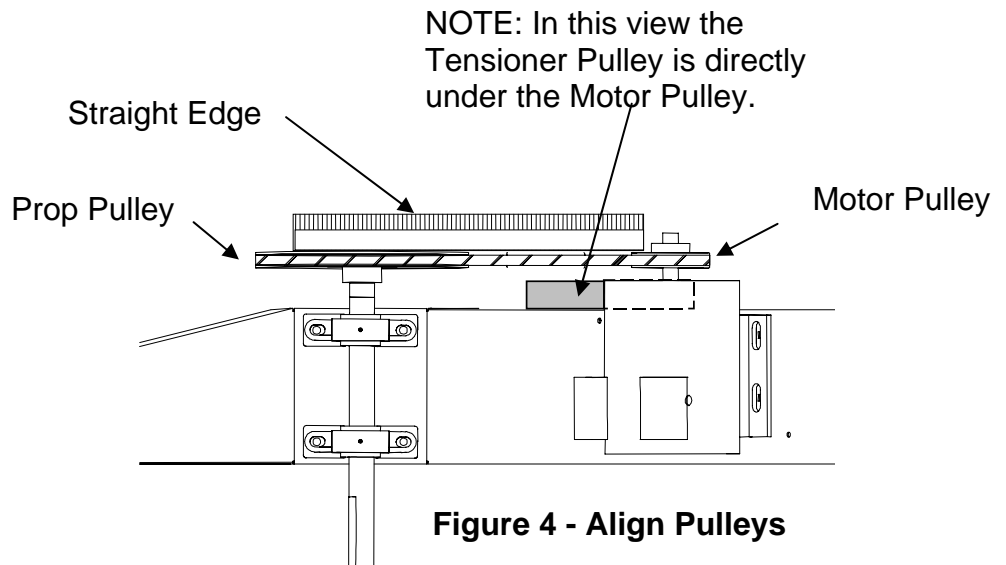

Figure 4 - Align Pulleys
6. Refer to **Figure 4**. Use a straight edge to align the prop pulley and the motor pulley with the tensioner pulley as shown. If necessary, loosen the prop pulley set screw. Securely tighten set screw of motor pulley and prop pulley. Recommended torque is 110 in. lbs. minimum.